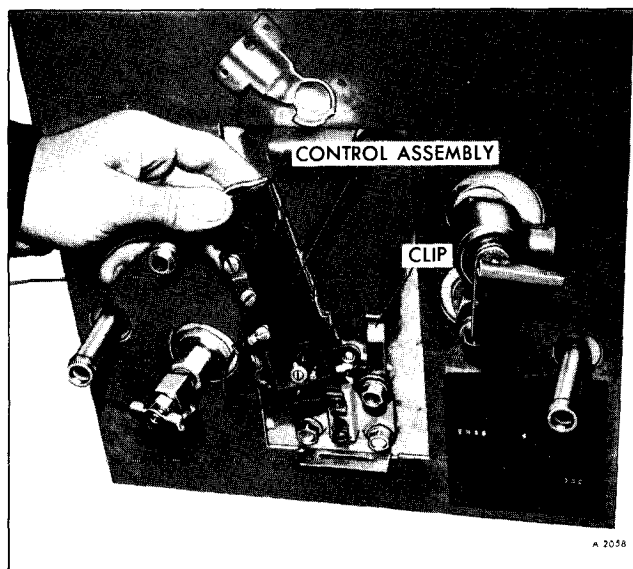

Figure 9-Removing Control Assembly
3. Disconnect wire and remove control assembly as shown in Figure 9.